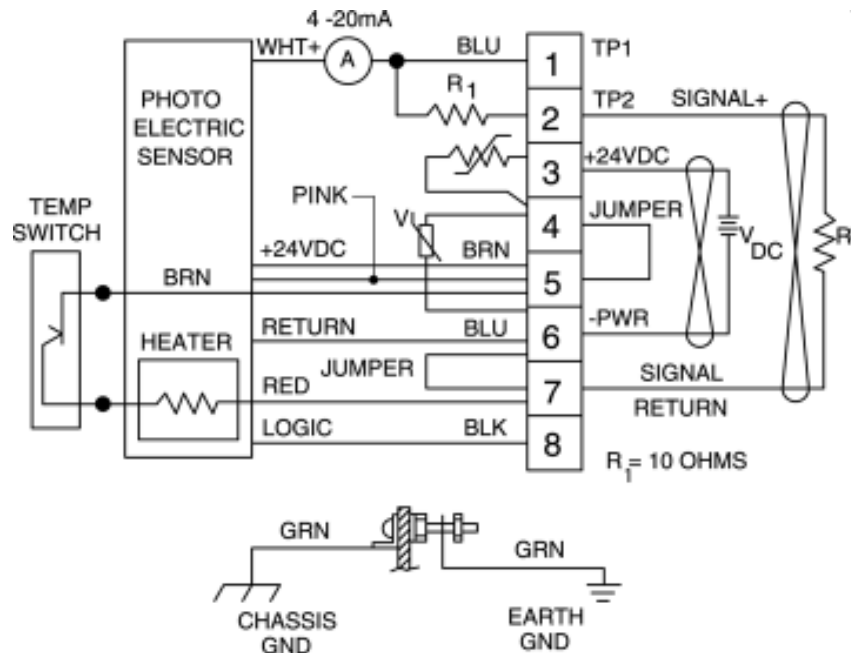

Figure 2-1: Wiring Diagram
- 6 Connect the voltmeter across the 10 Ohm calibration resistor on the terminal block. resistor R1 Figure 2-1 on page 2-2.